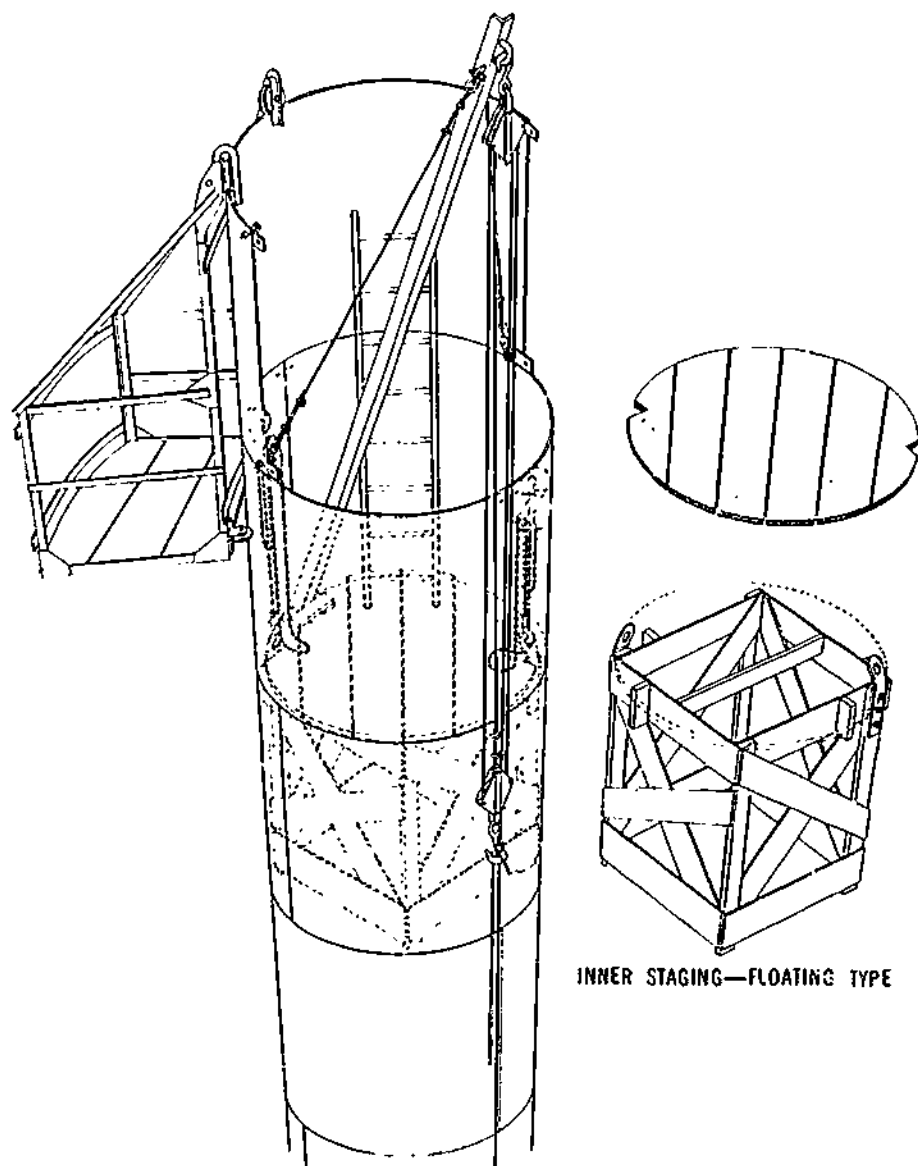

Figure 12-47. Stack Erection: Gin Pole Method
**Half-Round Stack Sections** When the stack sections have been supplied as half-rounds, the erection of each section involves vertical as well as horizontal (girth) welds. Figure 12-47 illustrates one method of erecting half-round
Figure 12-47 also shows the field-constructed gin pole resting on the platform and against the stack; it is prevented from slipping sideways by wooden cleats nailed to the platform. The guylines of the gin pole are fastened to the stack as shown. After the first half of a section has been raised, placed and secured with sufficient tack welds, use the gin pole to raise the stack cage to the top of the new half section. At this point move the gin pole to its new position (at the same elevation) for raising the other half of the section.